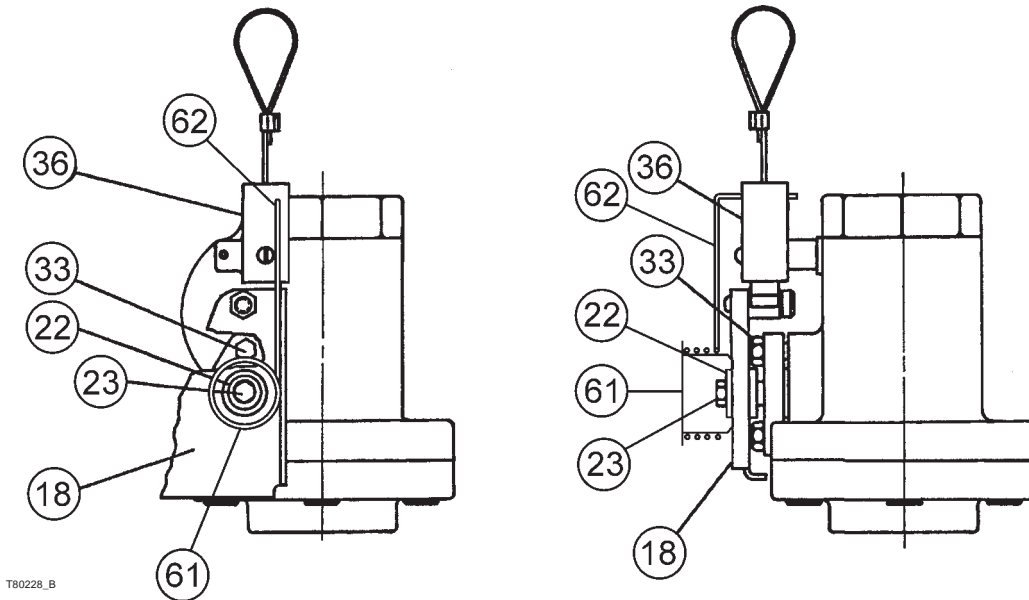

Figure 2. N550 Valve Prior to Mounting P327C
Refer to Figure 2, **for units with an external spring:** Remove the bolt (23), spring mandrel (61), the external spring (62), fuse link (22), operating lever (18), latch block (36), and the rear gland bolt (23). **KEEP THE FUSE LINK (22) AND BOLT (23).**
Refer to Figure 2, **for units without an external spring:** Remove the latch block (36), fuse link (22), bolt (23), operating lever (18), and the rear gland bolt (23). **KEEP THE FUSE LINK (22) AND BOLT (23).**